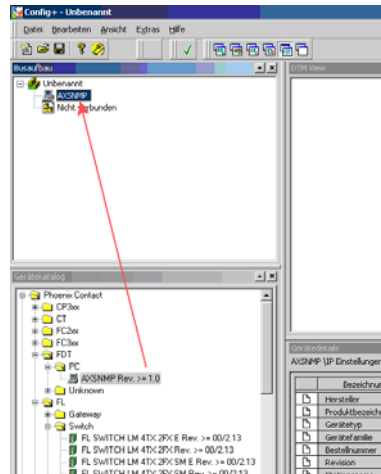

Figure 4-13 Selecting the desired components
1. A virtual PC must be integrated into the project. => Locate AXSNMP 1.0 in the device catalog under “Phoenix Contact, FDT, PC” and integrate it in the bus configuration under the project (see Figure 4-13).